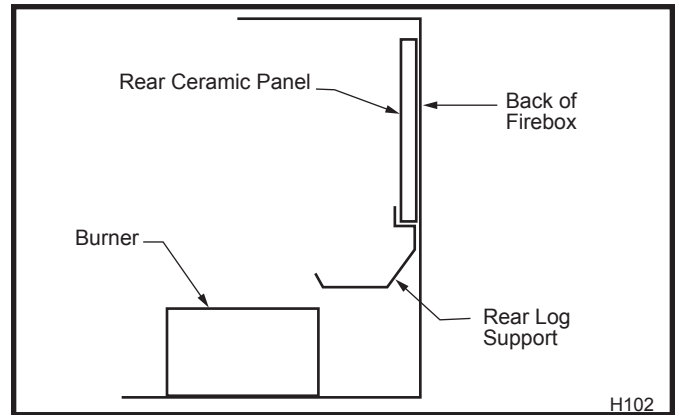

Fig. 37 Rear ceramic panel placement.
4. Place rear ceramic panel in back of unit. (Fig. 37)